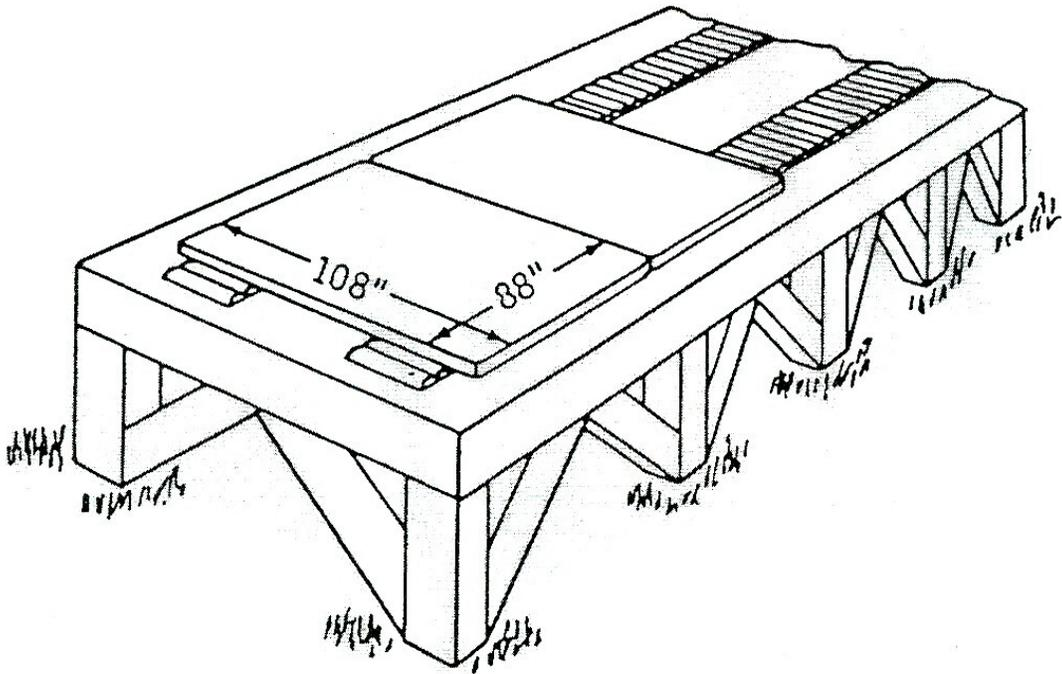

Figure 3-16
- b. Align the indents and detents on the 108-inch side of each pallet (see Figure 3-16).